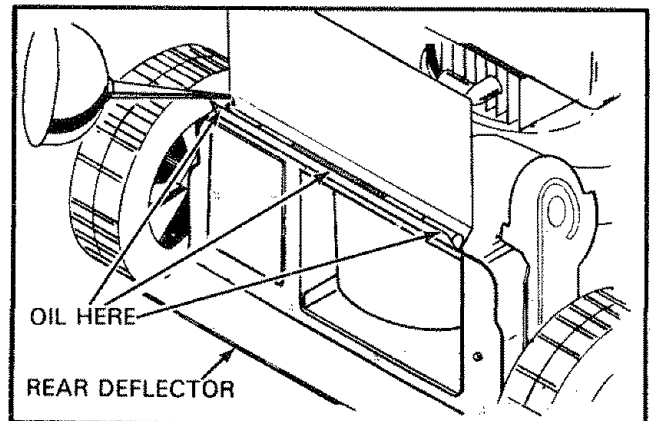

FIG. 24
**REAR DOOR HINGE:** Put a few drops of the same oil as used in the engine on hinge points of rear door once or twice each year (See Fig. 24).